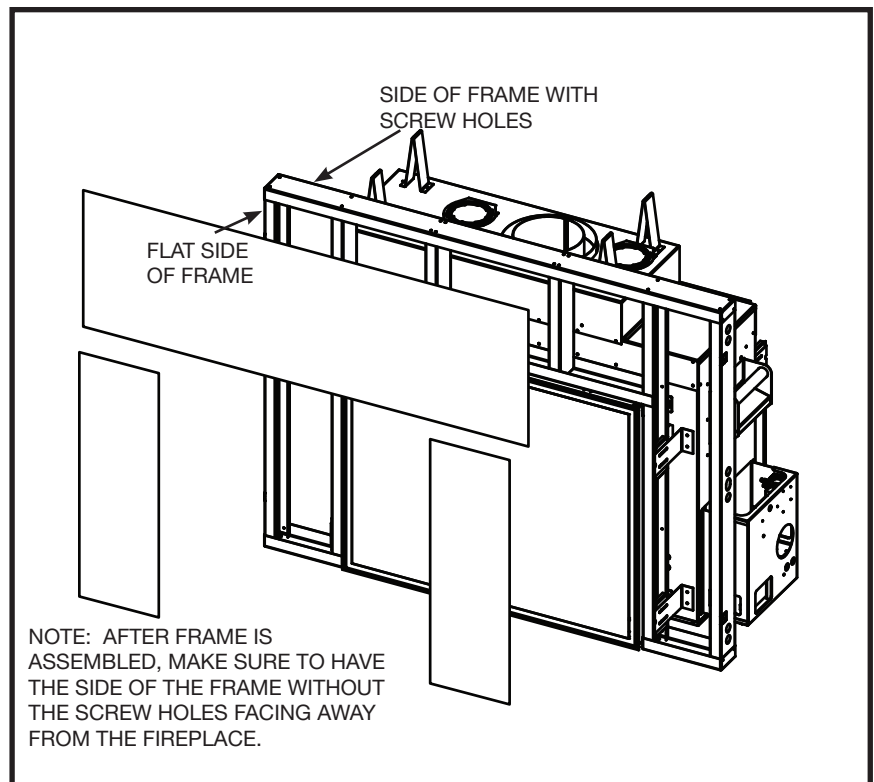

Figure 18: TC36ST With cement board.
Align the assembled frame to the unit framing brackets with the flat side facing outward into the rooms (Figure 18). Align the framing plates (8) to the fastening points through the access holes in the outer side studs (3).